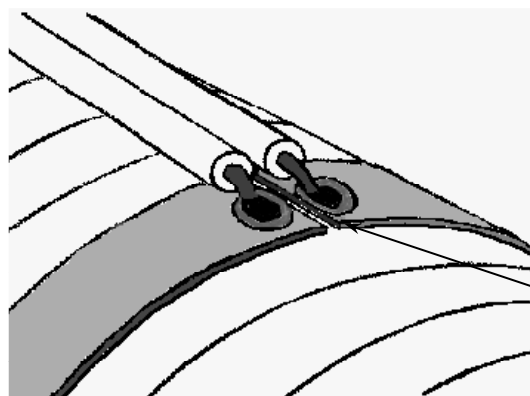

Figure 41: connection strands of secondary coil
8. Solder one strand to each of the copper band extremities (the strands' surface should be as large as possible: 0.62 mm² or AWG 20) and a maximum length of 100 mm. These solder joints must not contact other as well. Make sure the strands lie flat and close to each other to avoid collision with the stator when rotating. Soldering is easier when the insulating coat on top of the copper bands is carefully removed and then covered with soldering tin (see figure 41).